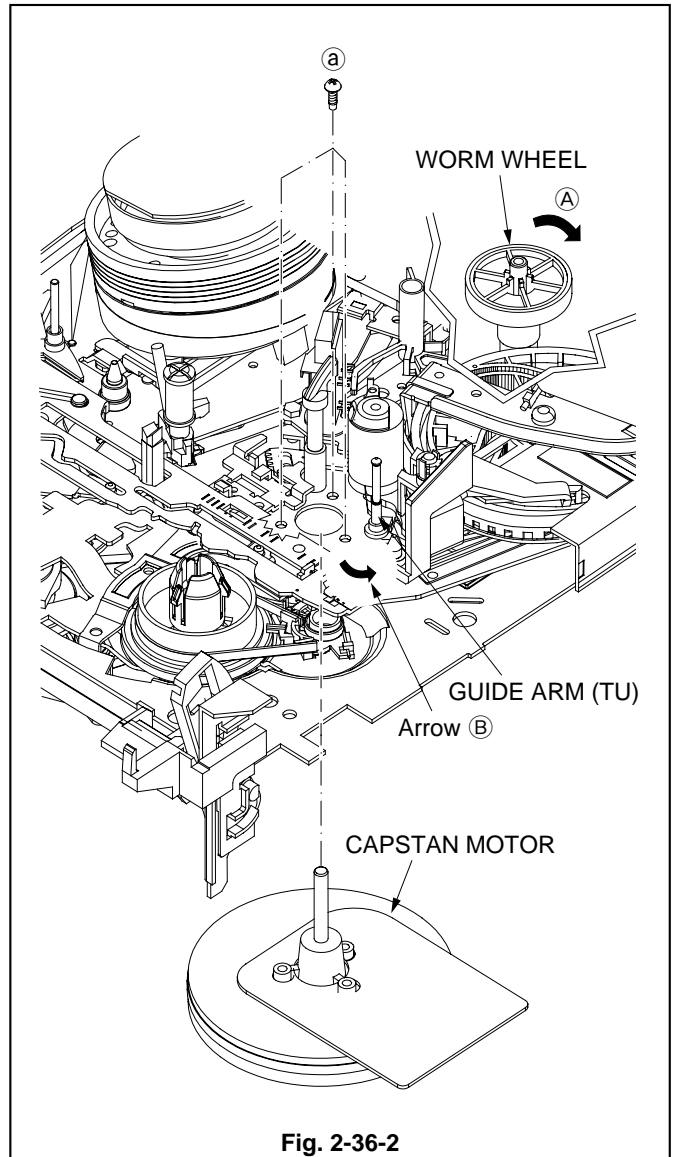

Fig. 2-36-2
2. Rotate the WORM WHEEL in the Fig. 2-36-2 in the direction shown by the arrow (A) so that the GUIDE ARM (TU) moves in the direction of arrow (B) and expose the three screws (a) fastening the CAPSTAN MOTOR.
3. Remove the three screws (a) fastening the CAPSTAN MOTOR shown in the Fig. 2-36-2 to remove the CAPSTAN MOTOR.